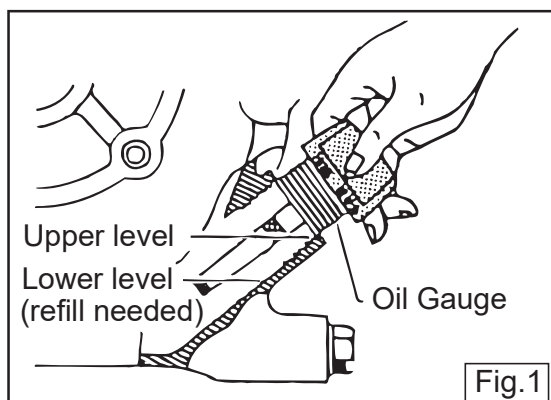

Fig.1
- 5 Set the engine on a level surface to check the oil level. If the oil level is low, add oil. Use the following engine oil.(Fig. 1)